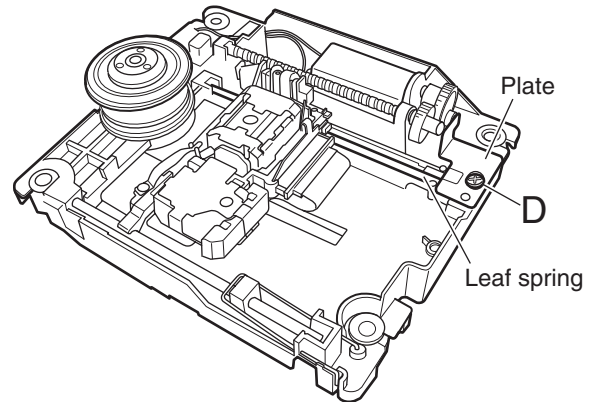
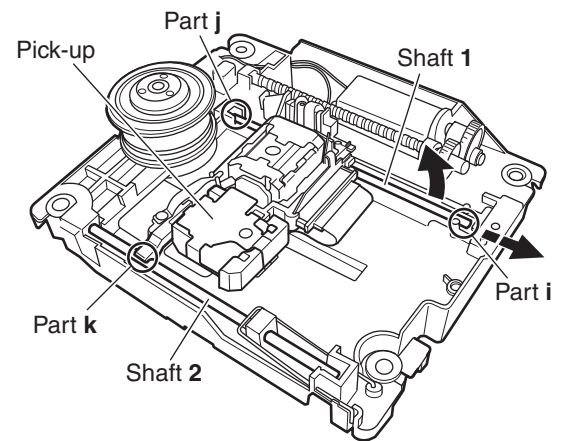
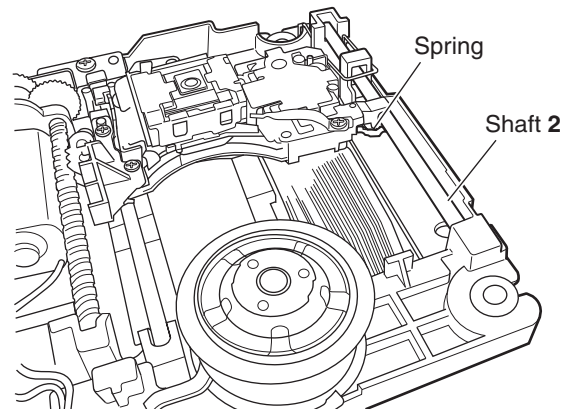

Fig.12
Fig.13
Fig.14
3.3.1 Removing the pickup (See Figure 12, Figure 13, and Figure 14)
- As Figure 14 shows, the spring must come under the shaft **2**.
- (2) Insert the shaft **1** in **j**, and attach the shaft 1 to **i**.
- (3) Attach the leaf spring, and then attach the plate. Fix the leaf spring and the plate by using the screw **D**.